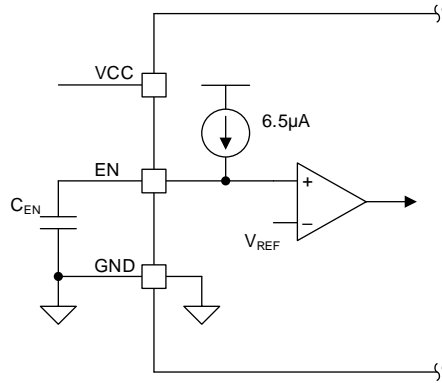

Figure 8 Using Capacitor at EN
When using a capacitor at the EN pin (Figure 8), the enable delay period can be calculated by Equation (1):